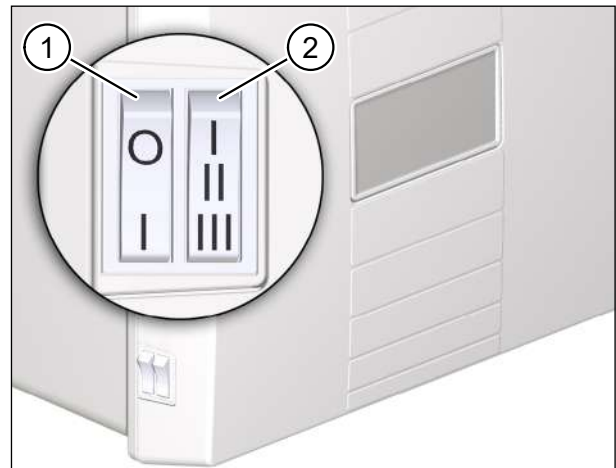
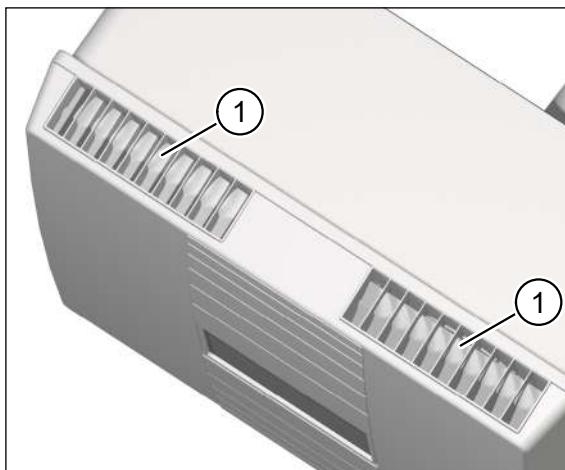
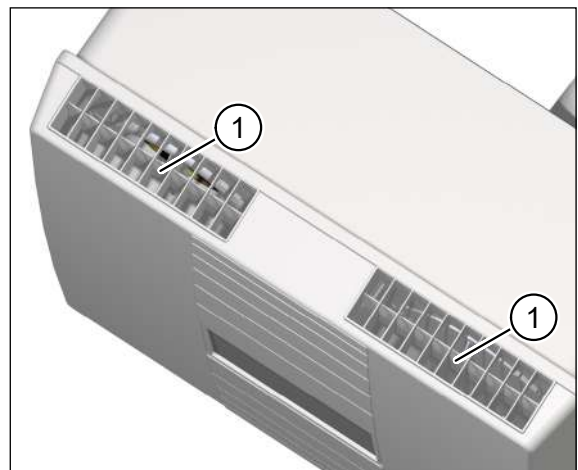

Fig. 10: Controls on the ventilation unit
Fig. 11: Air flaps closed
Fig. 12: Air flaps open
- ▶ Check that the openings for extract air and supply air (see Fig. 11 and Fig. 12) are unobstructed.
- ▶ Switch the ventilation unit on at the mains switch (item 1 in Fig. 10 on page 20). After approx. 10 s, the air flaps on the extract air and supply air openings open.
- ▶ Check the position of the air flaps (see Fig. 11 and Fig. 12) on the extract air and supply air openings.
- Both air flaps will be closed if the ventilation unit is switched off or without power (see item 1 in Fig. 11).
- Both air flaps open when you switch on (see item 1 in Fig. 12).
The step switch (item 2 in Fig. 10 on page 20) is used to set four different ventilation levels/programs (see section 10 on page 23); the maximum ventilation level is activated using a switching sequence and is time-limited.
The ventilation unit runs at maximum ventilation level (97 m³/h). After roughly 15 minutes or when the I-II-I switching sequence is repeated on the step switch (item 2 in Fig. 10 on page 20), the intensive ventilation is ended and the previously set ventilation program is resumed.
- ▶ Always switch the ventilation unit off at the mains switch (item 1 in Fig. 10 on page 20) for the filter change. On ventilation units with the M-WRG-O/NOF option, power to the unit must be switched off using the building's miniature circuit breaker. Otherwise the open air flaps (see Fig. 12 on page 21) will make it impossible to remove and insert the filter cartridges.